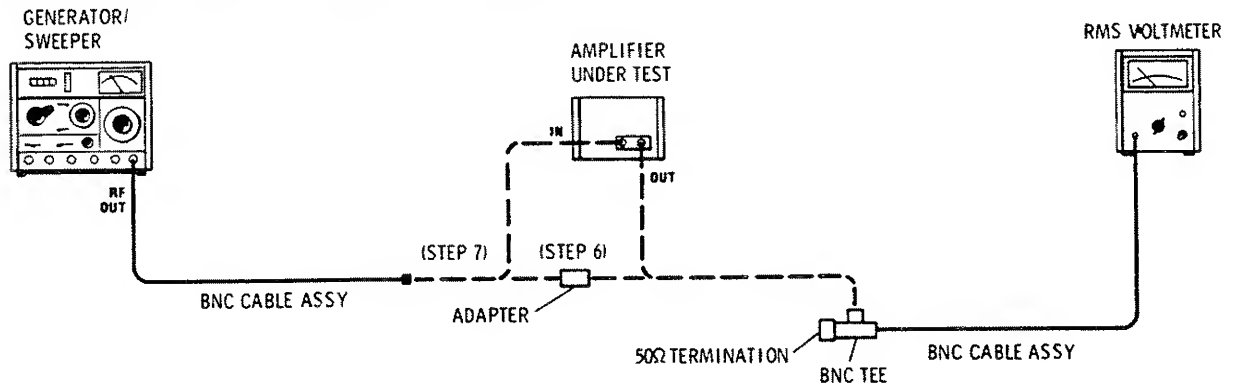

Figure 4. Flatness and Mean Gain Test Setup: 100 kHz to 10 MHz
6. Disconnect the sweep oscillator and the power meter from the amplifier. Connect the equipment as shown in Figure 4. Set the generator/sweeper for a 10 MHz, CW signal; set the signal level for -40 dB (read on the voltmeter).